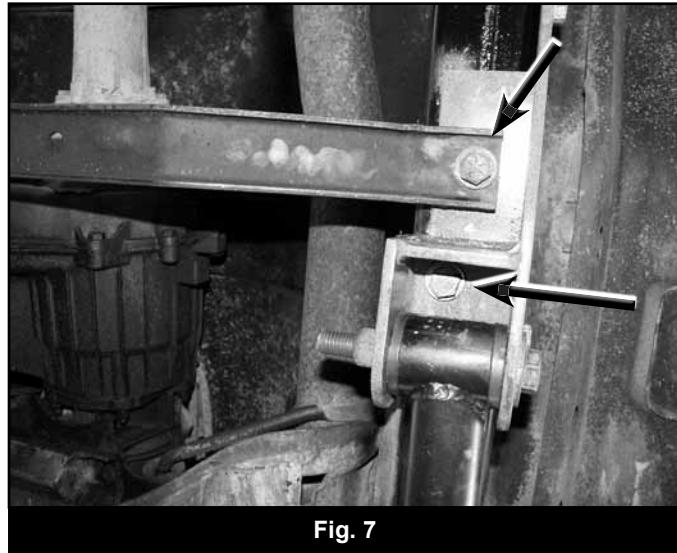

Fig. 7
20. Reinstall transfer case skid plate with OE hardware at front mounting location and 1/2" x 1-3/4" hardware at frame mounting points. Minor grinding required to enlarge hole diameter. Torque hardware to 65 ft-lbs. (Fig. 7)